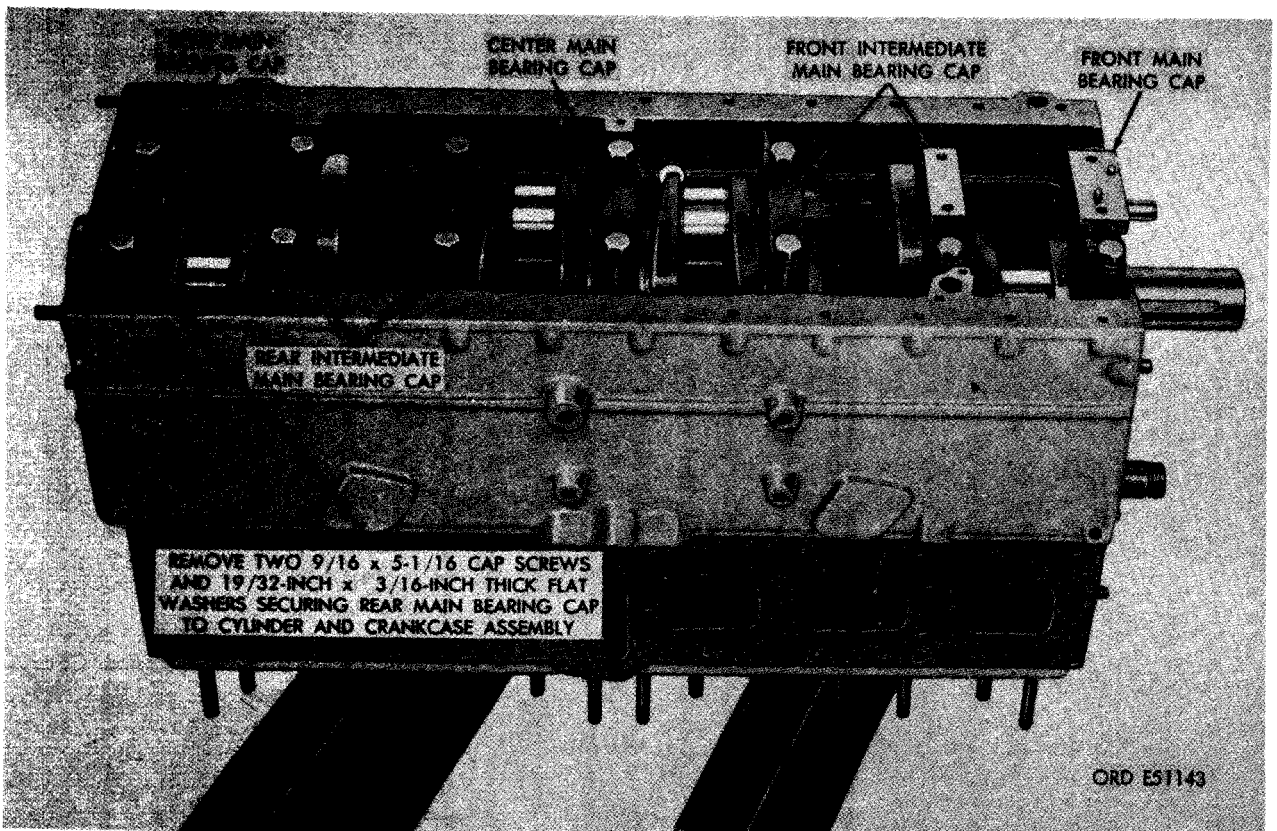

FIGURE 304. REMOVING OR INSTALLING MAIN BEARING CAP SCREWS.
- (1) Refer to figure 304 and remove the rear main bearing cap screws.